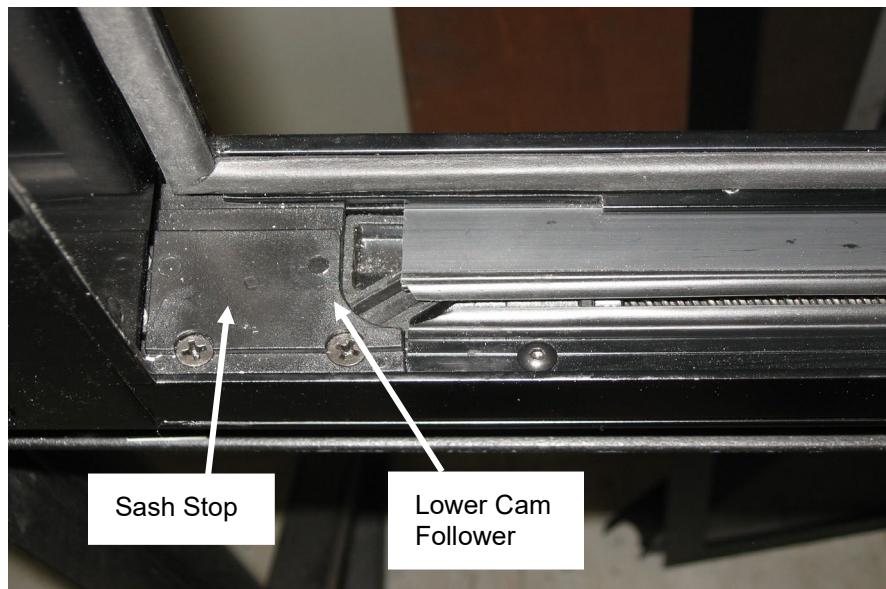

FIGURE 49: PROPER ALIGNMENT
3. Lift the sash up and out to disengage the bottom of the sash from the window frame. (Figure 49)